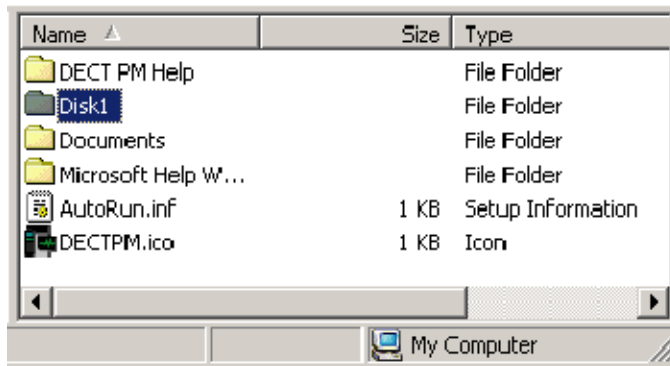

Figure 200: DECT Performance Manager application software
3. Open the folder labeled Disk 1. See Figure 200: DECT Performance Manager application software on page 292.